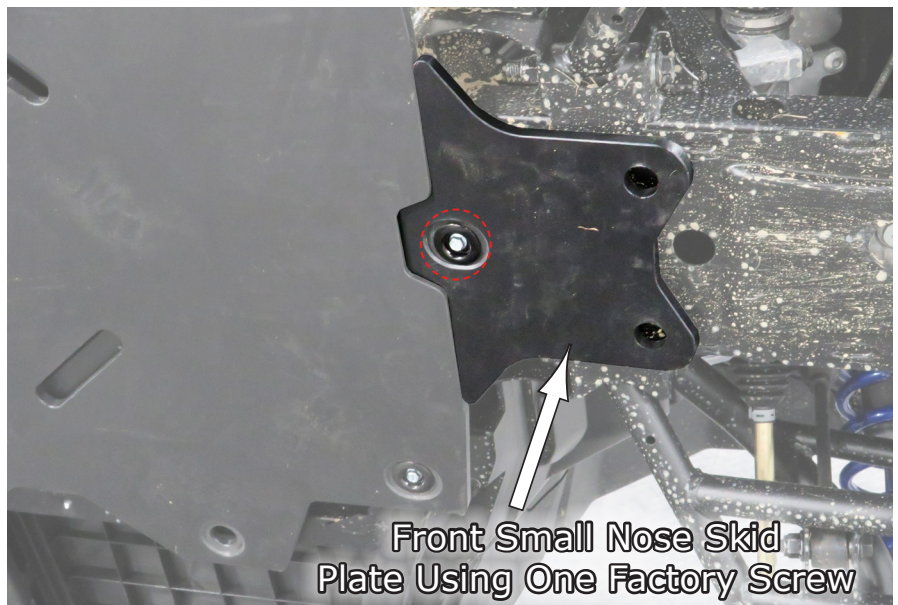

Fig.11
11. Now you can install the front small nose Skid Plate using one factory screw as shown in Fig.11.